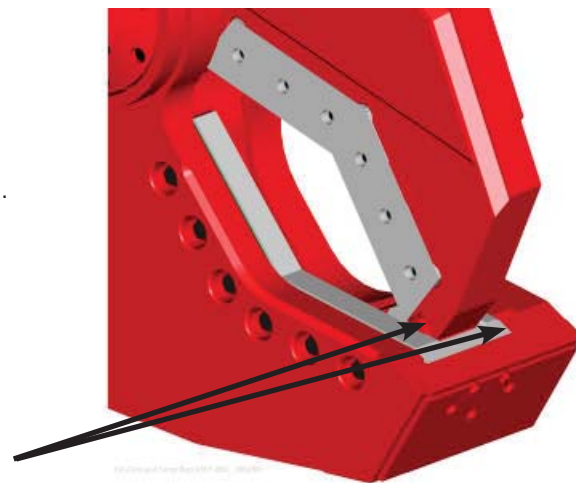

FIGURE 5-29
9. To check the fit of the tip, close the shear until the piercing tip begins to enter the lower shear (see **Figure 5-29**). The piercing tip should fit squarely into the lower jaw.